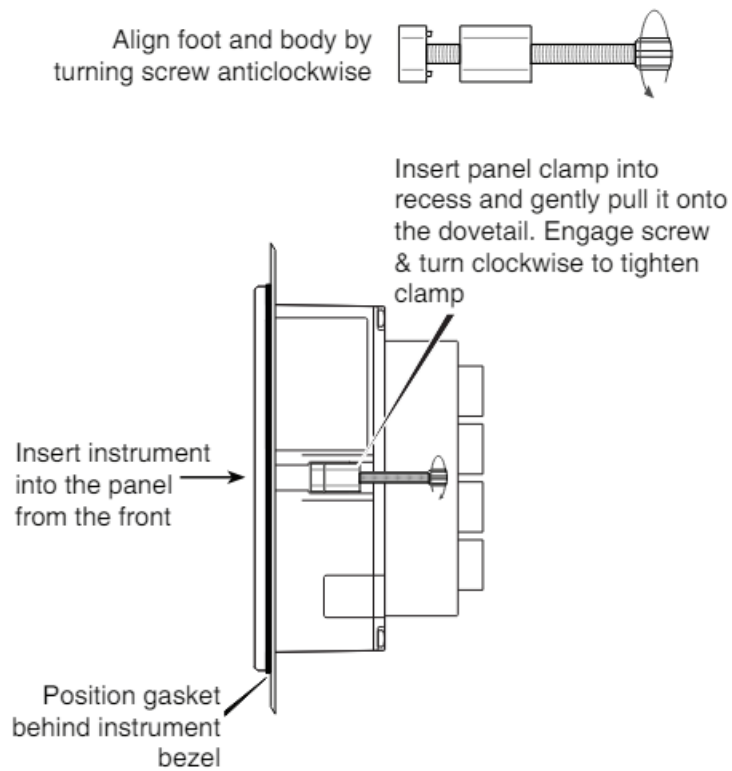

Fig 10 Installation of panel mounting clamps
2. First ensure that all eight panel mounting clamps are closed by turning the knurled screws fully anticlockwise until the two pips in the clamp foot align with holes in the clamp body as shown in Fig 10.
4. Place a clamp in the recess on each side of the Operator Panel, pulling gently to slide it onto the dovetail as shown in Fig 10. Push the knurled screw slightly forward to engage the thread and tighten by turning clockwise until it is just finger tight. When both clamps are fitted ensure that the gasket behind the front panel bezel remains correctly positioned before fitting the remaining panel mounting clamps. Finally, fully tighten all 8 panel clamps to secure the instrument. The maximum recommended clamp tightening torque is 25cNm (2.2 lbf in) which is approximately equivalent to finger-tight plus one half turn. Do not over tighten.